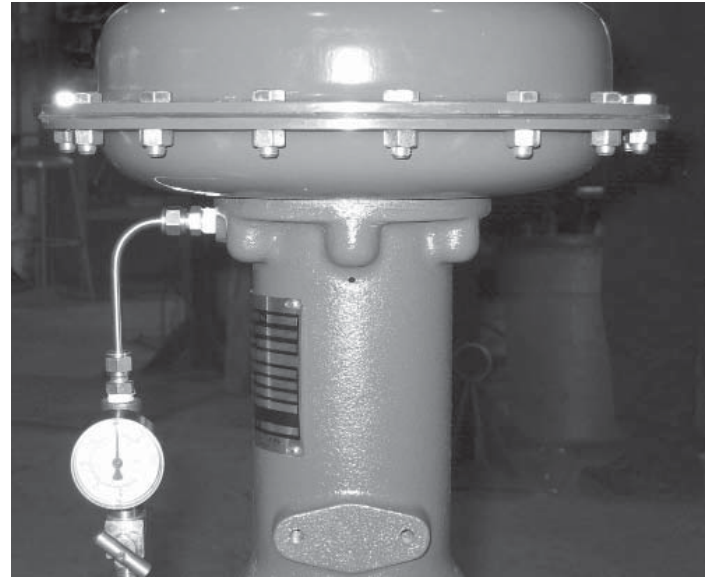

Figure 3 Supply Line and Gauge
- 4 Connect an operating medium supply line with a gauge (that can accurately measure both 0 Psi and the upper bench set pressure limit) to the actuator. Refer to Figure 3.